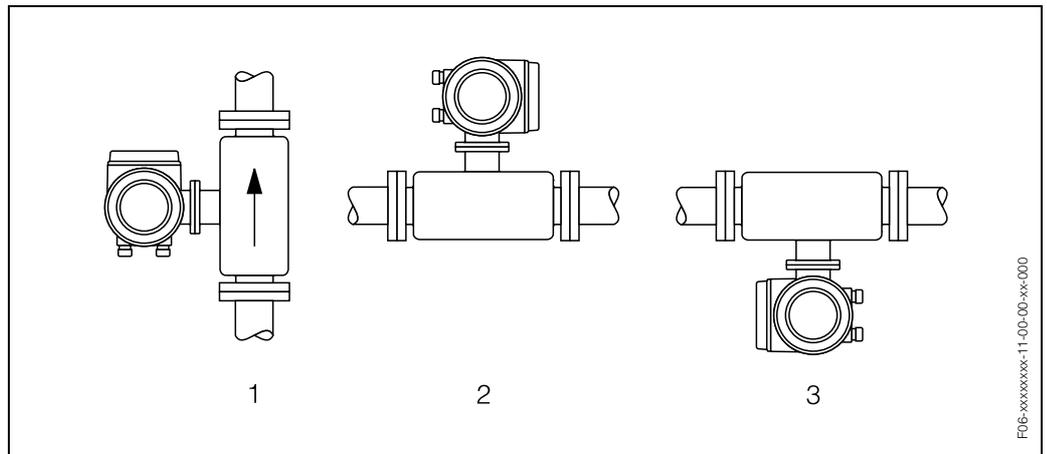

Fig. 7: Orientation Promass F, M, I
- Vertical piping: installation in accordance with Fig. 7 / View 1
- Horizontal piping: installation in accordance with Fig. 7 / View 3
- Horizontal piping: installation in accordance with Fig. 7 / View 2